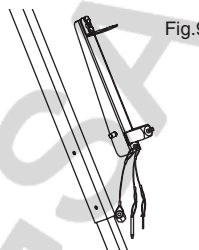

Fig.9
Trapezode which is fitted with a pulley (figure 9).
- That the Blocfor support is correctly attached to the leg of the Tracpode (figure 9 page 7).